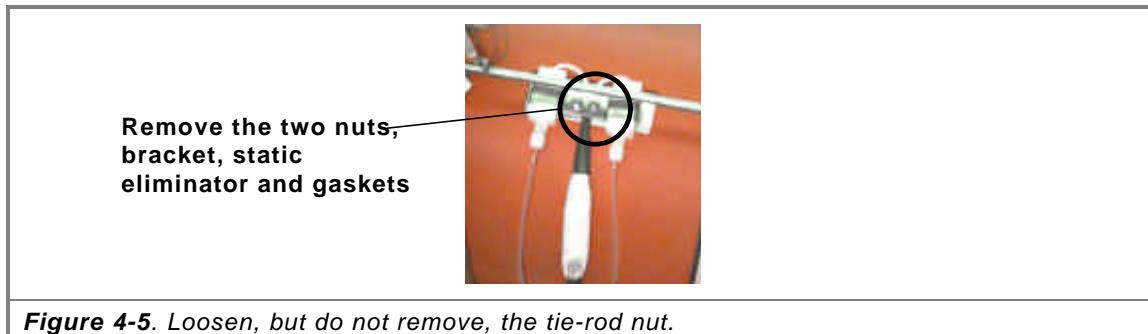

Figure 4-5. Loosen, but do not remove, the tie-rod nut.
27. Remove the static eliminator manifold from the bowl, see Figure 4-5.